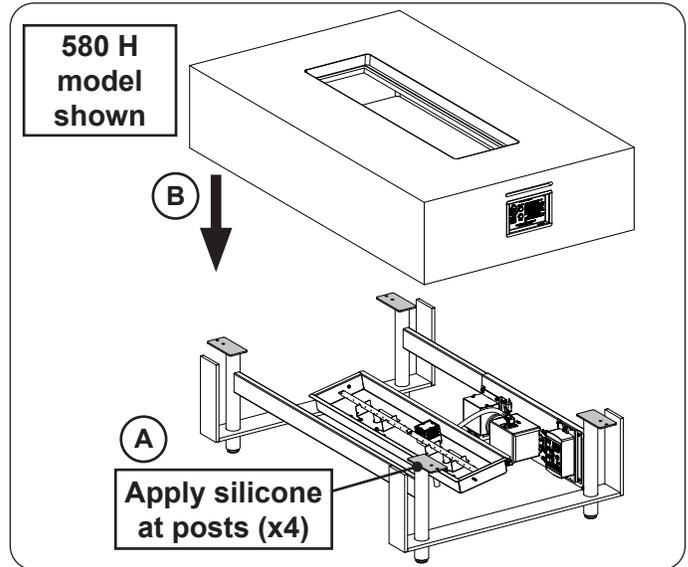

Fig. 33-1 Replace top/main unit
5. Apply silicone at the 4 posts, and replace the top/main unit (see Fig. 33-1).